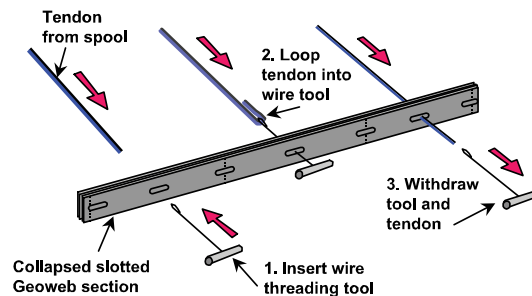

Figure 11 Threading Tendons
- Use a short length of 2.5 mm (12 gauge) wire with an elongated loop at one end as a threading needle to pull the leading end of the tendon through the Geoweb® section. See Figure 11.